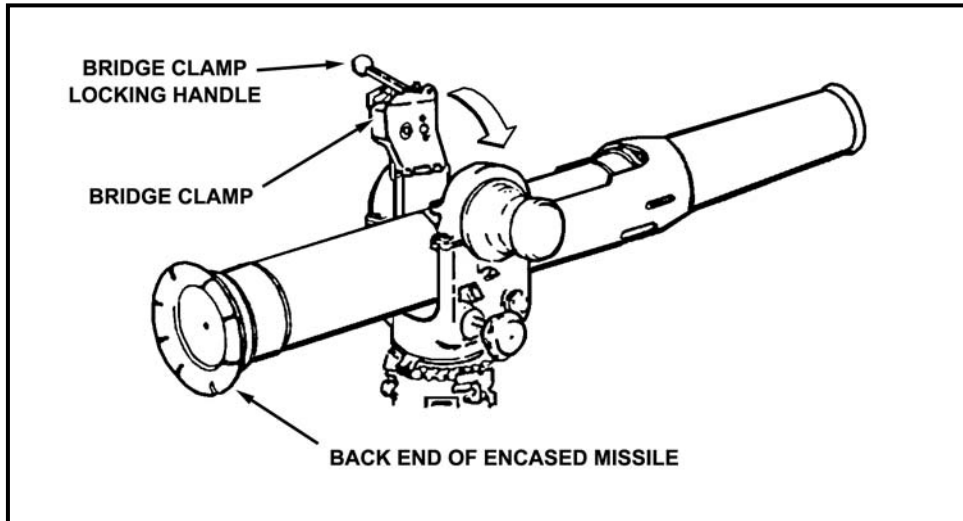
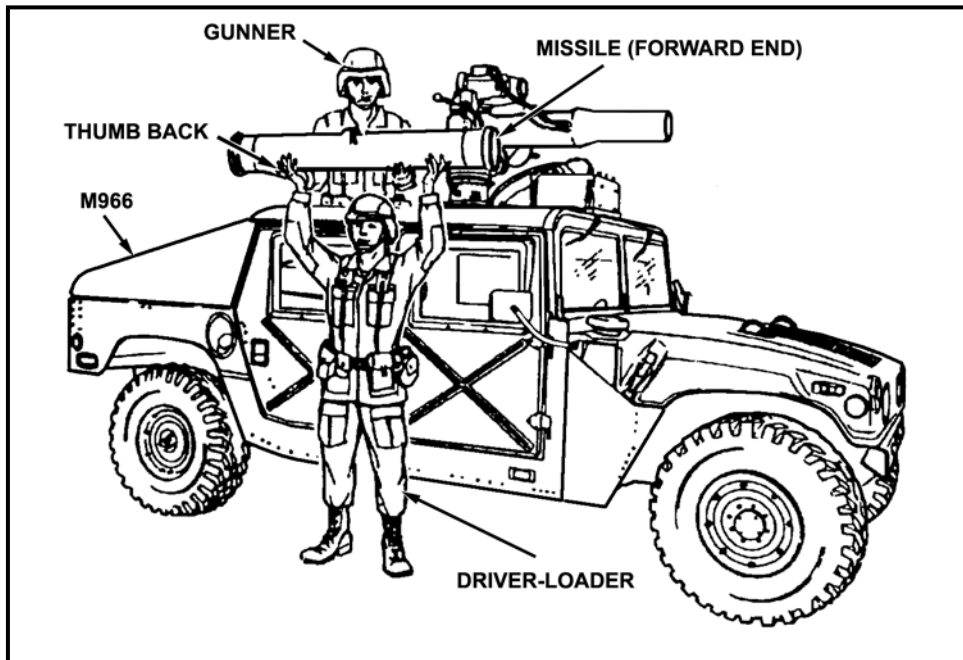

Figure 3-15. Bridge clamp, missile, and launch tube.
Figure 3-16. Driver-loader's position for receiving the missile from the gunner.
(2) He opens the bridge clamp (Figure 3-15, page 3-18), removes the missile from the launch tube (keeping the missile pointed downrange at all times), and hands the missile over either side of the vehicle to the driver-loader (Figure 3-16, page 3-18).